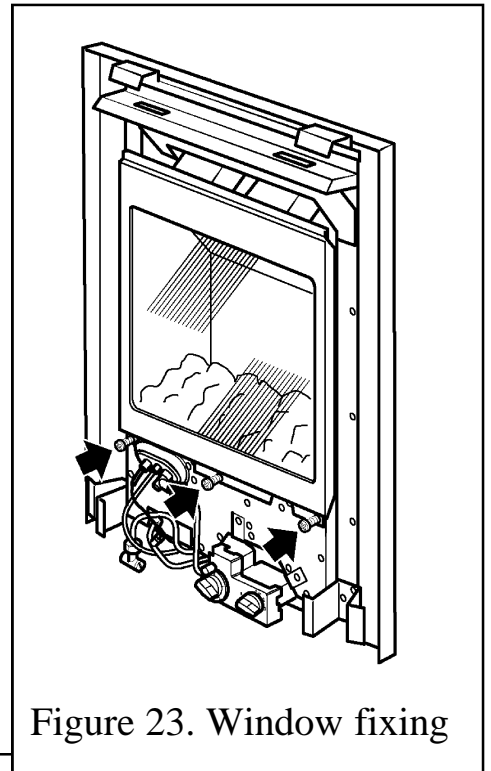

Figure 23. Window fixing
- Unscrew and remove the three spring-loaded window-fixing screws and washers from the base of the window frame (See figure 23).